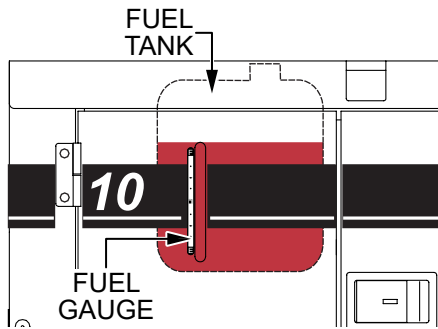

Figure 16. Full Fuel Tank
3. **NEVER overfill the fuel tank** — It is important to read the **fuel gauge** (Figure 16) when filling the fuel tank. **DO NOT** wait for fuel to rise in the filler neck.